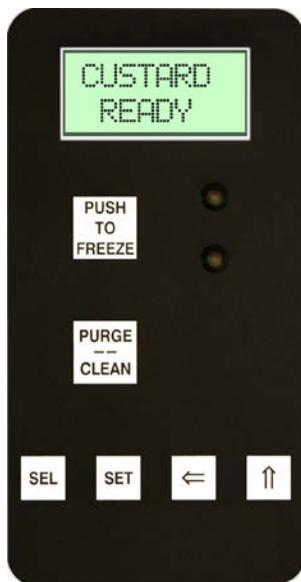

Figure 3-6 Custard Mode
- I. When the display reads CUSTARD READY, the freezing cylinder is at the correct temperature (Fig. 3-6).